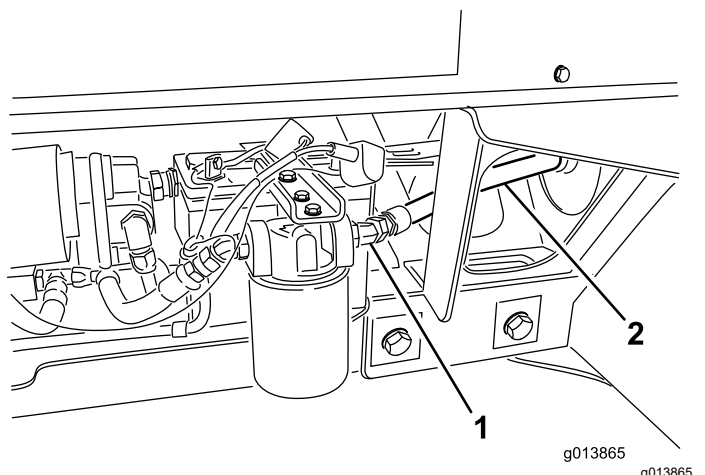

Figure 11
8. Connect the hydraulic hose #3 to the filter outlet (Figure 11).